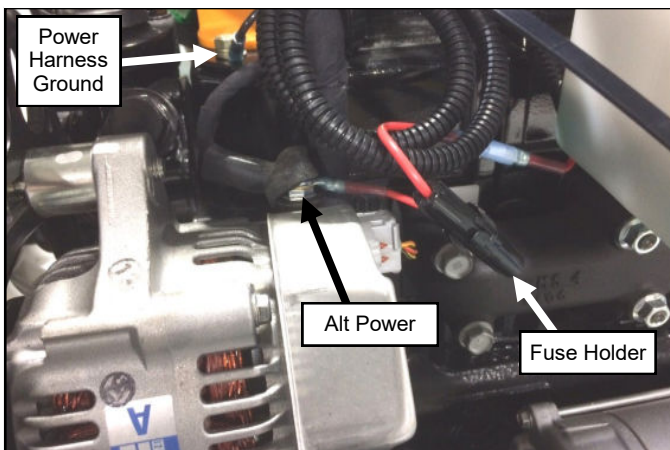

Fig. 10.5 (Power Harness Connections)
10.5 Locate the fuse harness (WH-GF) and connect the fuse harness to the main power harness via the bullet connectors. See Figure 10.5.
10.6 Install the ring terminal of the main power wire harness to the vehicle's engine. Coil the slack in the power harness and secure with a wire tie. See Figure 10.5. Double check that the wires are not pinched or near sharp or hot surfaces.